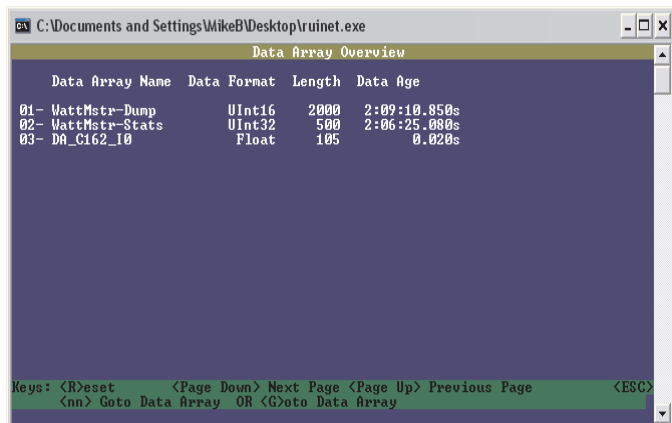

Figure 19: Data Array Overview Screen
16.) From the RUINET Main Menu, type <A> for the Data Array Overview. The Data Array Overview Screen will display (Figure 19).
17.) This screen (**Figure 19**) will verify communication to the HVAC units. Lines 1 & 2 should always be present. After a start-up period of approximately 4 minutes, you will see 1 additional line for each HVAC unit. This screen represents the PT Link II communicating with 1 HVAC unit.